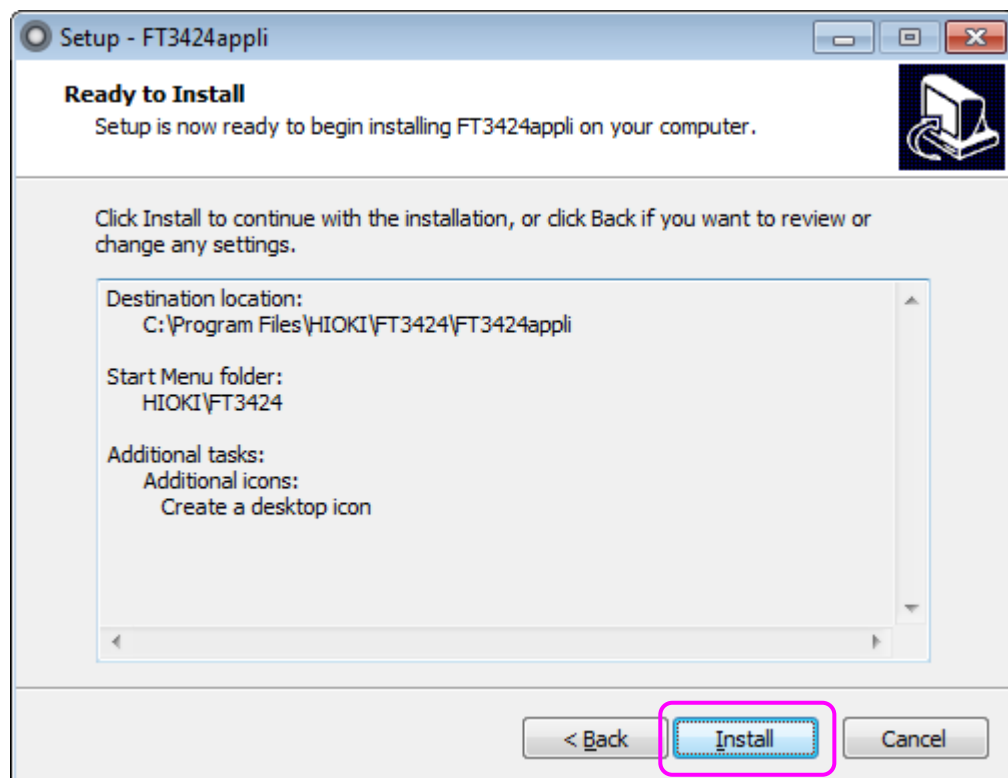

Fig.2-9
Step6: Click [Install]. (Fig.2-9)